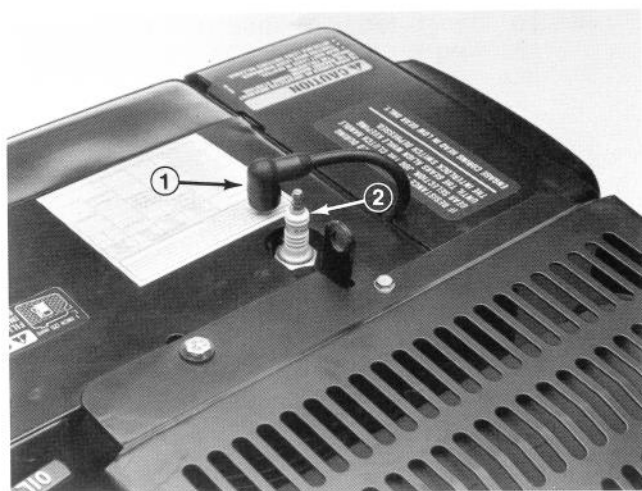

Figure 34
1. Clean area around spark plug so dirt does not fall into cylinder when plug is removed (Fig. 34).
2. Pull wire off spark plug and remove plug from cylinder head (Fig. 34).